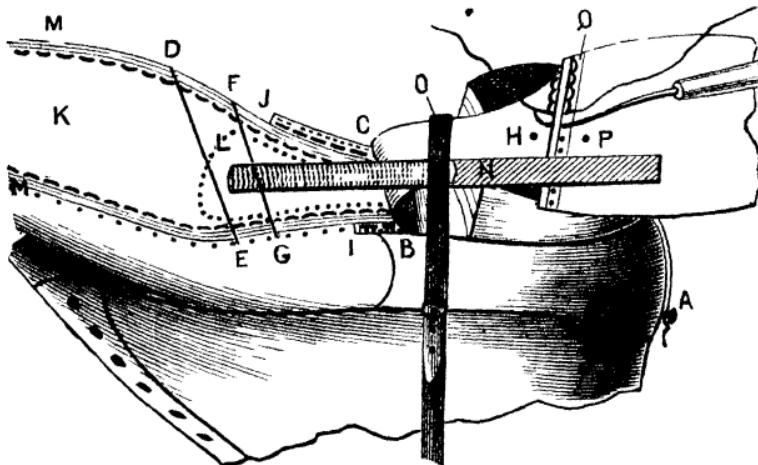
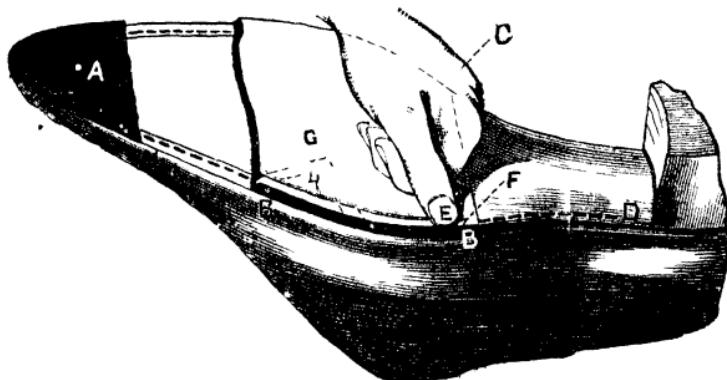

Fig. 52.—Grafting Sole to Waist.
Fig. 56.—Fitting, Stitching, and Sewing.
A thin long tack must be put in the back of the boot to keep the last in its place, as at A (Fig. 52). Then put the sole and welt part in water, and when wet, take out the boot, wipe it, and cut the old sole off. This is done by putting a knife between the sole and welt at B, and continuing right along, round the toe, and down the other side to C. The old sole can then be cut away, cutting across from D to E to make a riveted or pegged graft, as shown on p. 51, or from F to G to make a sewn graft.
■ (Fig. 52); if not, replace it with new. Felt is used for this purpose; cut a piece a little larger than the old, and paste down the shank—this is generally a piece of skived leather, which reaches from under the heel to the dotted line, L (Fig. 52), and just the width of the waist. Then paste the new piece of felt in the bottom, well hammer it in all over; and when dry skive off the edge all round at M M (Fig. 52), making it level with
The boot is now put across the knees, in the position shown in Fig. 52, with the toe towards the left and the back part towards the right knee, and—as also shown in the illustration—with the old waist tied back. The new sole can be put against the old leather, and an old rasp, *N*, put along the top, as shown, and the strap or rope, *O*, placed round the waist of the boot, as shown, and passing over the rasp. The strap will, as it is pressed by the worker's foot upon the shank, *L*, the old waist, *H*, and the new sole, *P*, keep them all solid while the graft is being sewn. A strong thread—about fifteen strands of No. 9 Patent, or its equivalent of stouter hemp—should be used, and plenty of wax should be worked into the thread before it is twisted.
This grafting is done with the piece on the top of the heel, according to the position of the old leather, as will be seen in Fig. 52. This is the most convenient plan,
If it is found difficult to keep the sole firmly in position by means of the rasp only, a long rivet can be put in through into the old lifts at H, and another at P (Fig. 52). The heeling should be left till the soling is done, and the two holes can be rubbed out in the finishing.
have a thin coat of paste. The sole can now be put into its place, and pulled towards the toe to keep it in position. A rivet is put through at A (Fig. 56), and another through the hole, P, in Fig. 52.
This done, hammer the sole evenly all over, and then pare it all round the edge, close to the welt, as shown at B B (Fig. 56). As the sole is wet, with a little care this can be done easily without cutting the upper part, and should form one even edge all round, kept square or at right angles with the flat of the sole, taking care not to go too close to the welt. A line can now be drawn all round with the compasses, about  $\frac{1}{8}$  in. from the edge ; and upon this line the channel is to be cut to receive the stitch.
When the cut has been made (Fig. 56) from *b* round the toe to *c*, it can be opened with any blunt instrument. This is so that you may see the point of the awl when it comes out in the pit or centre of the channel, and also to give space for the stitch to fall into. To prevent the stitching-awl from notching the inner edge of the channel, which would make it irregular and unsightly when finished, it can be turned over for about two inches ; and when about a dozen stitches have been made, pass the left-hand thumb-nail along the channel from the last stitch, and turn over for another two inches.
The sewing is started at *d* (Fig. 56), and the sewing-awl (Fig. 57) is used till the first stitch on the new leather is reached at *b*; then the stitching-awl (Fig. 58) is used. At the two points, *w* and *c*, the sewing and
The boot is held by the strap on the knees, toe towards you, on its side, with the sole to the left, and the upper to the right. The thumb of the left hand is pressed firmly against the bottom of the sole, as shown by **E** in Fig. 56, just beyond where the point of the awl is to come out. The awl is then laid against the upper, with the point on the flat of the welt, and it is pushed through. One sharp push, at the same time dropping the elbow a little,
The boot is then replaced in the same position as at first, and the ridge over the channel is rubbed hard up and down with a bone or long stick, held with one end in each hand, as shown from **c** to **d** in Fig. 60, until the whole is smoothed. By these means the thin narrow strip of grain, **H** (Fig. 56), is thrown towards the edge, where it forms a burr all round. The boot is then held with the toe towards you. With the back of the knife the edge of the sole is scraped upwards, to throw this burr